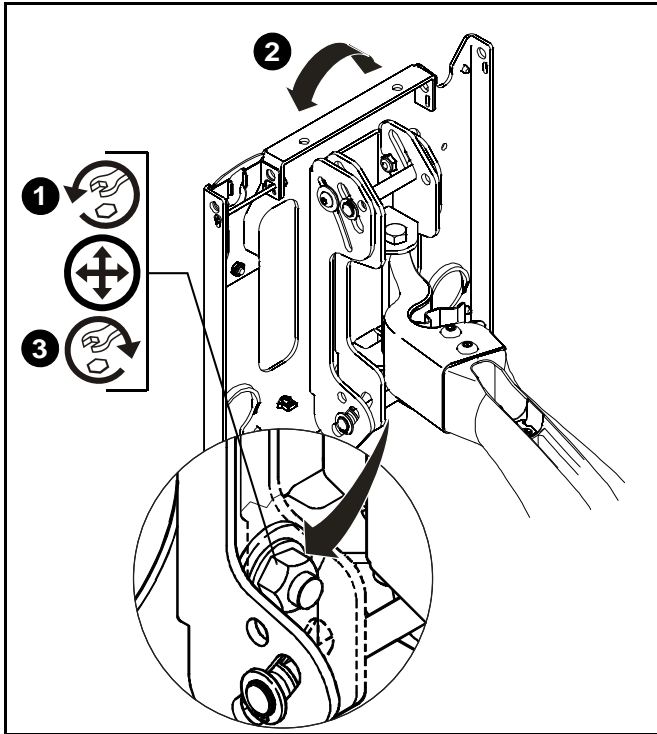

Figure 9
1. Loosen the roll tension adjustment nut located on the back side of the faceplate assembly. (See Figure 9)
3. Tighten roll tension adjustment nut. (See Figure 9)